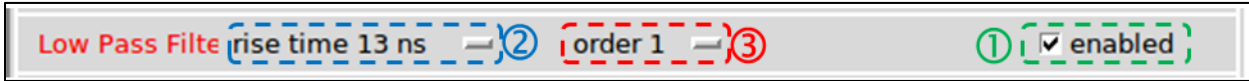
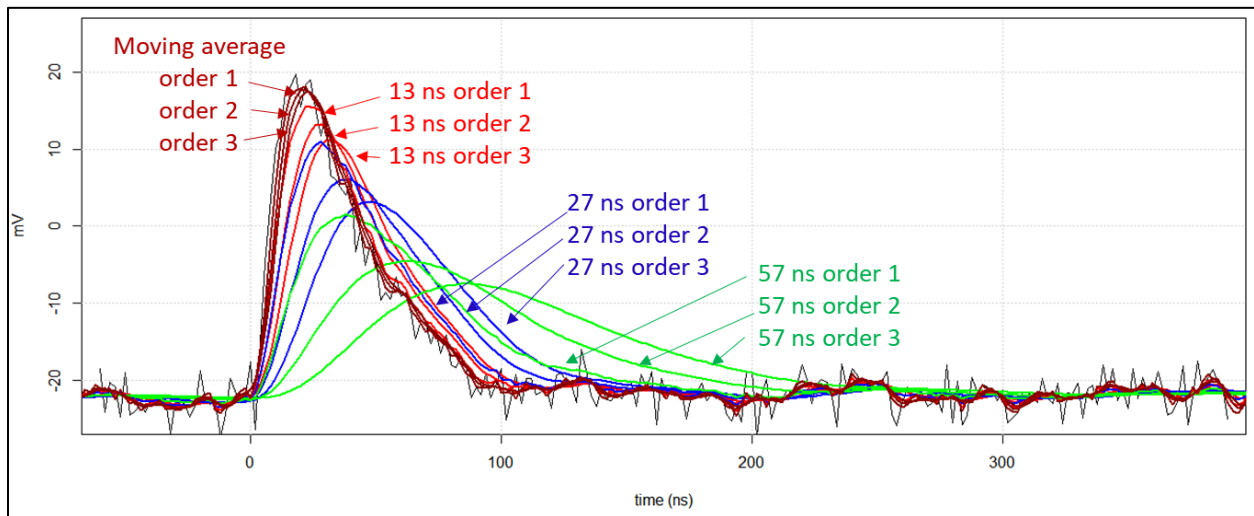

Figure 13: Low-pass filter parameters.
Figure 14: effects of different low-pass filters
If the experimenter wants to benefit from a low-pass filter, he must check the "enable" box ① (Figure 13).
The user can select with button ② (Figure 13) one of the four available filters: either he chooses a moving average of 4 samples, or he chooses a filter defined by its rise time: 13 ns, 27 ns or 57 ns.
He can select the filtering order ③ (Figure 13) : “order 1” means that there is only one low-pass filter, “order 2” means that there are two successive low-pass filters, “order 3” means that there are three successive low-pass filters. Figure 14 shows the different effects of low-pass filters on one electronic pulse.